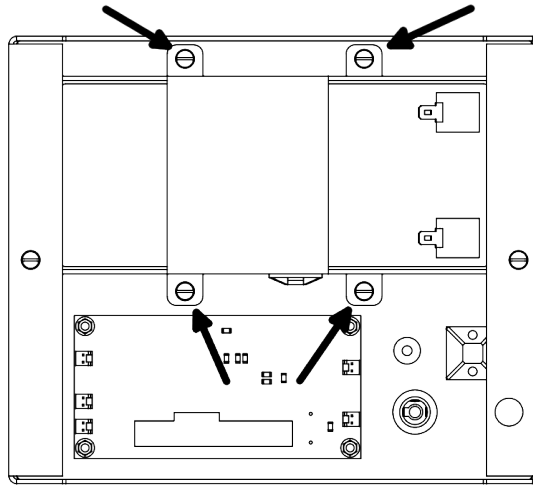

Figure 4.2: Battery Mounting Screws
3. Remove battery mounting strap nuts. Refer to Figure 4.2 for nut locations.